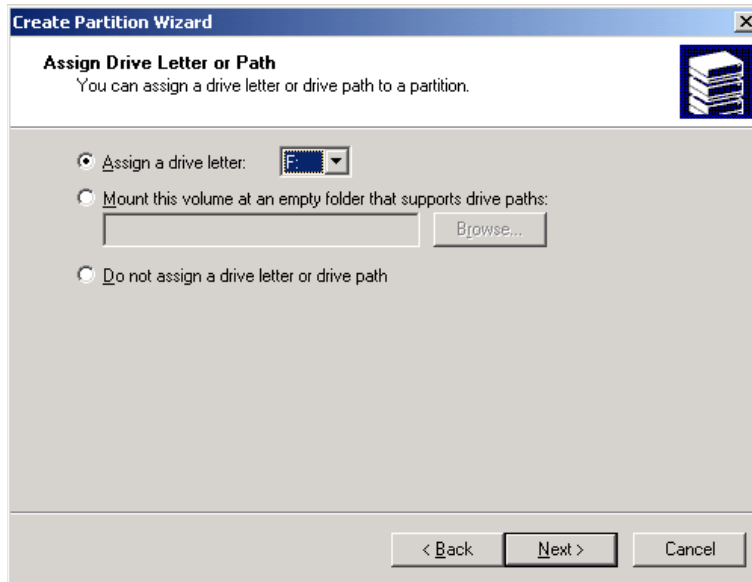

Figure 3.5 Assign Drive Letter or Path
3. The Assign Drive Letter or Path screen displays (see Figure 3.5). Select a drive letter. You can also state no drive letter or drive path.